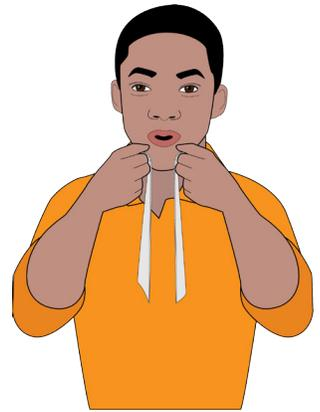

Figure 33. How to hold the two sheets of paper for Investigation B.
1. Hold two sheets of paper in front of your face as shown in Figure 33.